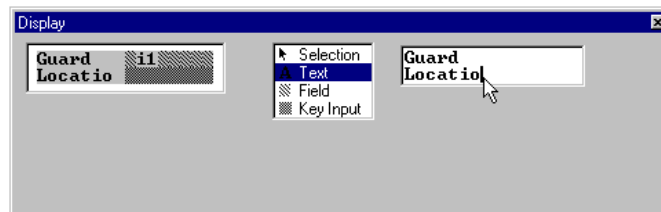

Figure 3-65 Editing “Guard” Handler Display
55. Click at the end of **Locatio** in the edit box (Figure 3-65).